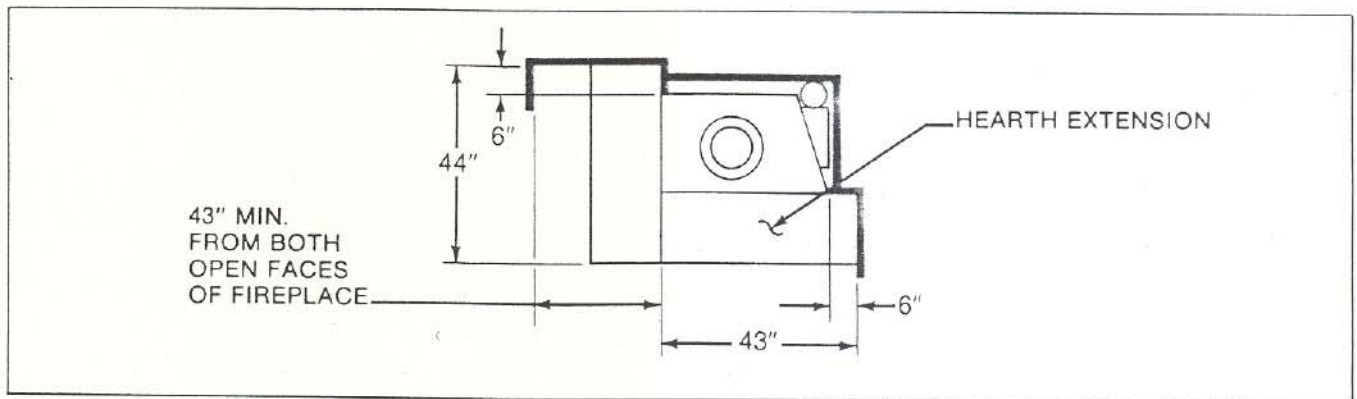

Figure 1
*See Figures 1 and 2 (page 8) when using minimum clearances.
The fireplace may be located as shown in Figures 1, 2 and 3.